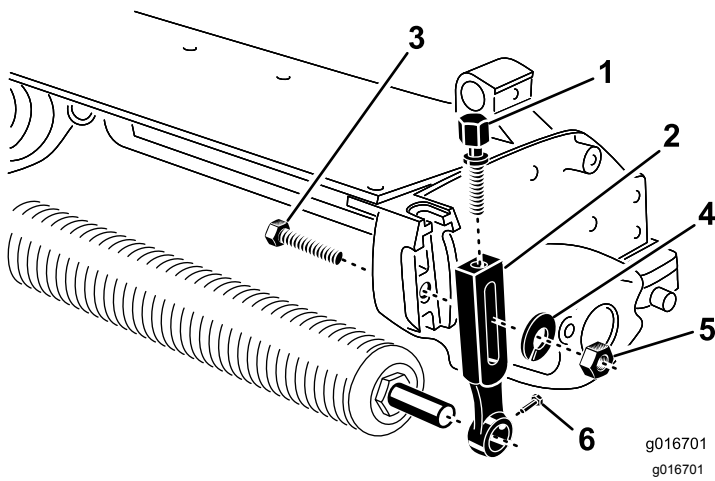

Figure 1
1. Remove the plow bolt, washer and nut securing one of the height of cut (HOC) arms to the cutting unit side plate (Figure 1).
2. Loosen the roller mounting screws in the HOC arms (Figure 1).
3. Slide the HOC arm off the roller shaft (Figure 1).